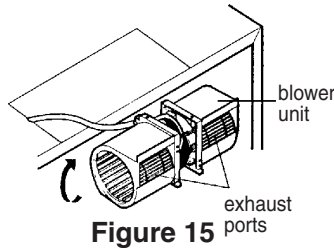
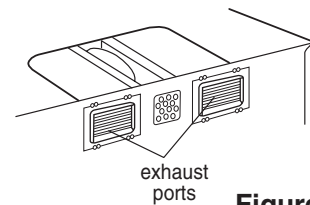

Figure 15
Figure 16
5. Rotate the unit so that the exhaust ports face the rear of the cabinet. See Figure 16. When you insert blower unit, blower wire must be like figure 15.
6. Place blower unit back into cabinet. Check that the exhaust ports face towards the rear of the cabinet. See Figure 16.